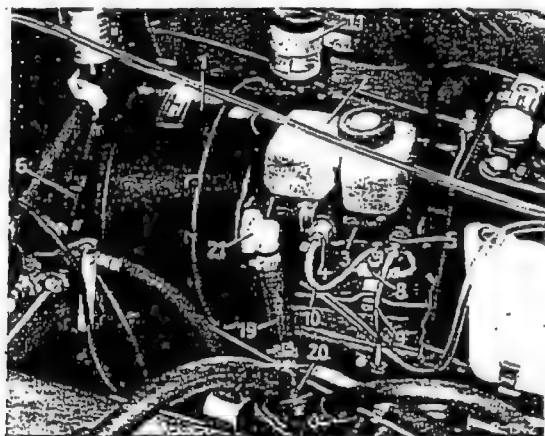

Fig. 42-16/10
the check valve (23) has been separated from the power brake and has been installed in the vacuum hose (19) (Fig. 42-16/11). The power brake itself is now only provided with a connector. Since there is no physical difference between the check valve and the connector the vacuum check valve has a white housing and the connector a black housing.
1. Detach the vacuum hose (19) for the check valve (21) (Fig. 42-16/10).